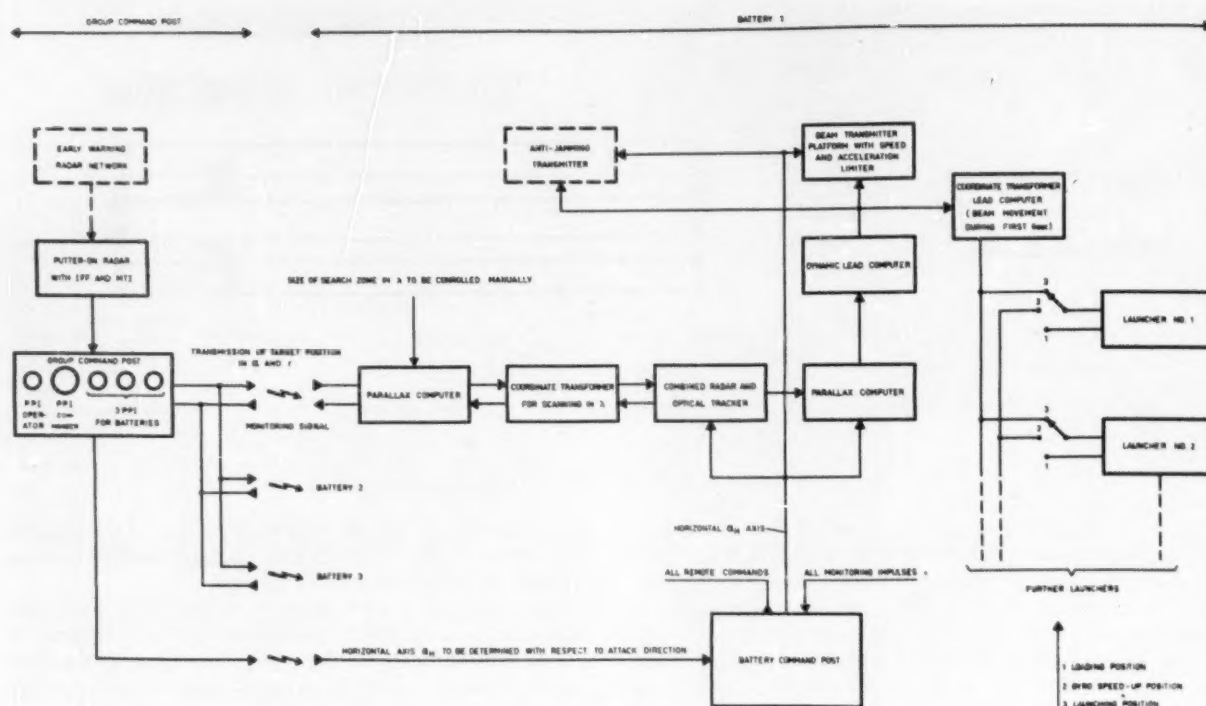

FIG. 4.
The ground organisation of a rocket detachment is shown in Fig. 4. An anti-aircraft rocket battalion consists of a battalion command post and three rocket batteries. The control station is equipped with a radar target finder and each of the three rocket batteries possesses its own tracking radar unit. This tracking radar unit is also fitted with an optical direction finder (industrial television chain), so that the crew can effect the angular control of the aiming
The payload of the Sputnik was distributed in three localities (see Fig. 4). In the nose of the final stage were placed the
FIG. 4. A diagram of the distribution of equipment inside Sputnik II. (1) A protective cone, discarded after the Sputnik is established in its orbit. (2) Equipment for the investigation of ultra-violet and x-ray radiations of the Sun. (3) Spherical capsule with instruments and radio transmitters. (4) A special frame to which instruments are secured. (5) A hermetically sealed chamber with a test animal.